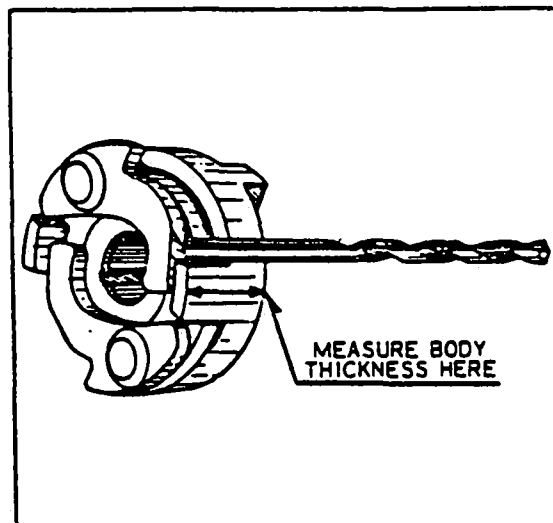

Figure 8-11. Impulse Coupling
- k. Inspect impulse coupling flyweights for excessive looseness on the axles. Design couplings having 0.927 of an inch thick body should be checked with 1/8 inch drill. Couplings with 0.974 of an inch thick body are checked with a No. 18 drill. If drill fits between cam and flyweight, the fit is too loose and coupling should be replaced. (Refer to Figure 8-11.)